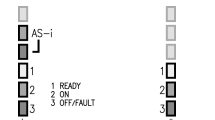

Fig. 3: LED indicators in device
**LED indicators ASM1, ASM1E (Fig. 3)**